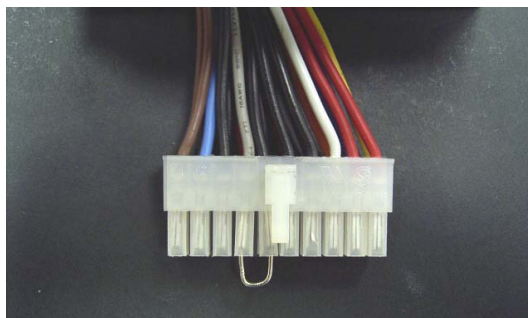

Figure 5-10
Step 3: If you are using ATX power, please short PS-ON and Ground on ATX power connector (As Figure 5-10), and turn on AC power switch of ATX power supply to let system boot up. If you are using AT power supply, you can simply turn on the power on AT power supply to boot up the system.